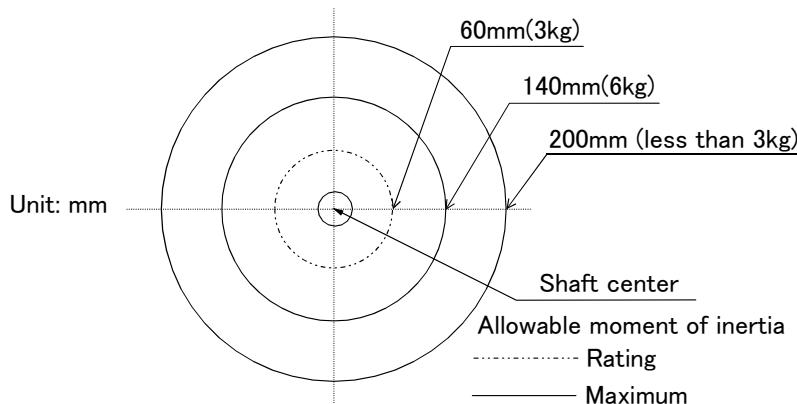
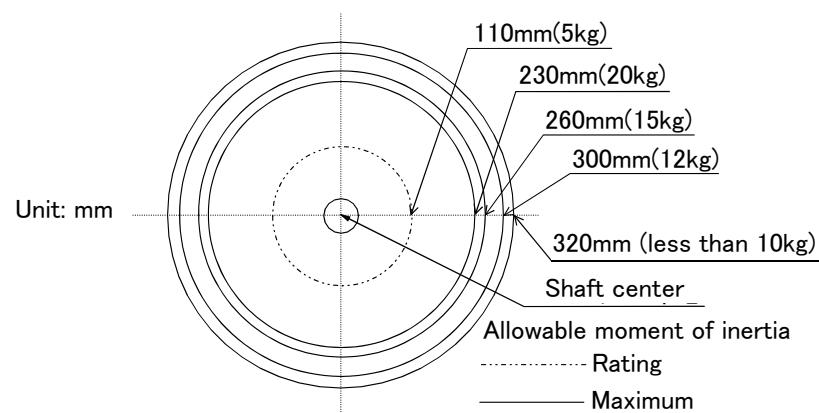

Fig.2-1 : Position of center of gravity for loads (for loads with comparatively small volume): RH-6FH series
Fig.2-3 : Position of center of gravity for loads (for loads with comparatively small volume): RH-20FH series
- (1) The tooling should have the value less or equal than the smaller of the allowable moment of inertia found in Page 13, "2.1.1 Basic specifications".
- (2) Fig. 2-1 to Fig. 2-3 shows the distribution dimensions for the center of gravity in the case where the volume of the load is relatively small. Use this figure as a reference when designing the tooling.
Please use the robot in the allowable moment of inertia of maximum moment of inertia shown in Fig. 2-1 to Fig. 2-3.